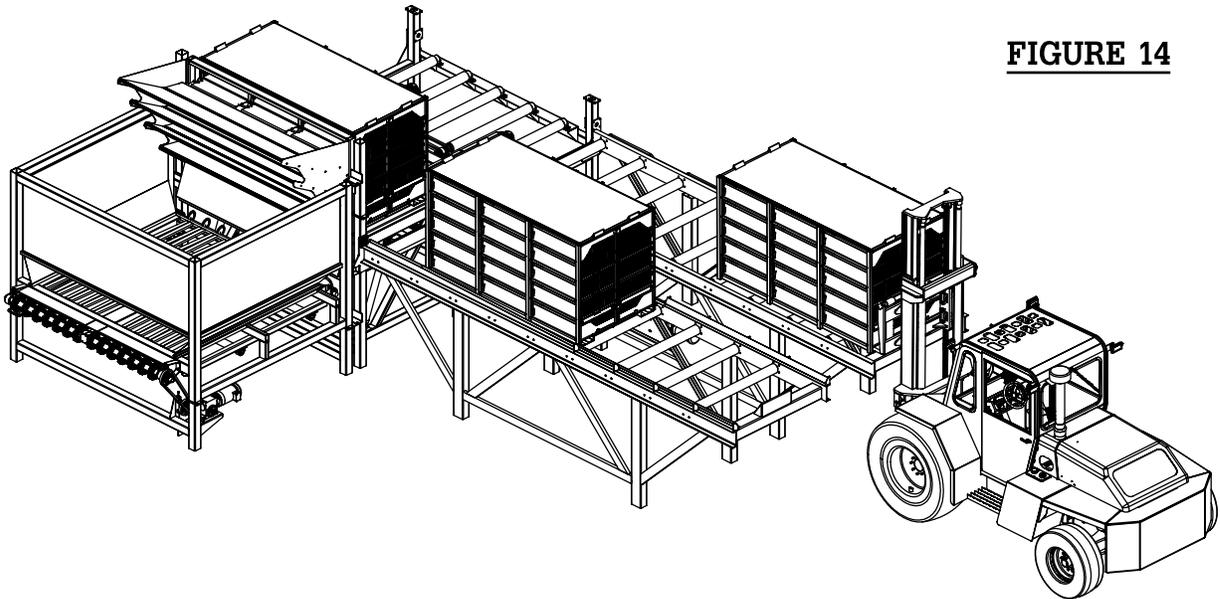

FIGURE 14
19. The forklift operator can remove the empty cage from the outgoing conveyor at this time. (See Figure 14)